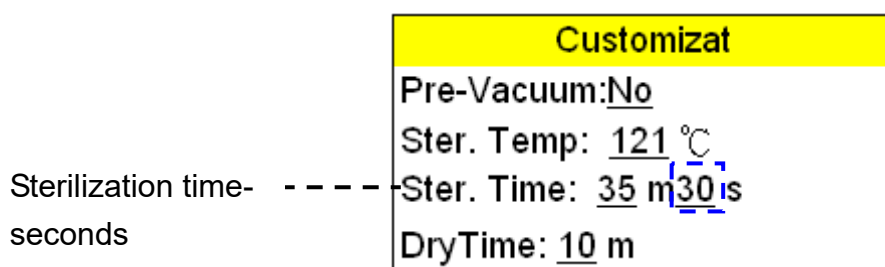

Figure 86
- Press  button to store sterilization time parameter as shown in Figure 86.